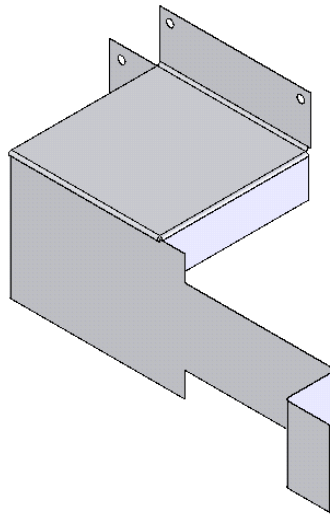
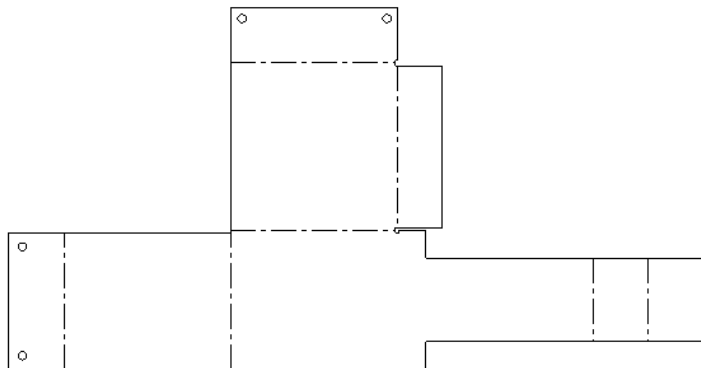
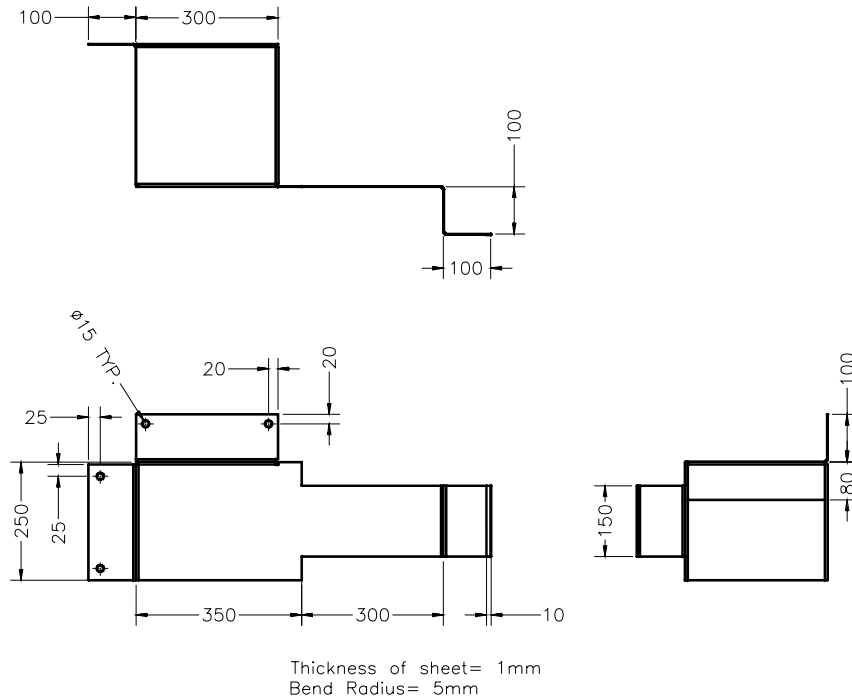

Figure 16-138 Sheet metal component
Figure 16-139 Flat pattern of the sheet metal component
Figure 16-140 Drawing views and dimensions of Tutorial 1
In this tutorial, you will create the sheet metal component shown in Figure 16-138. The flat pattern of the sheet metal component is shown in Figure 16-139 and its views and dimensions are shown in Figure 16-140. You will create this model by first creating the base flange. After creating this model, you will create its flat pattern. **(Expected time: 45 min)**
3. Create the sketch of the base flange. The sketch of the base flange consists of a rectangle, refer to Figure 16-140.